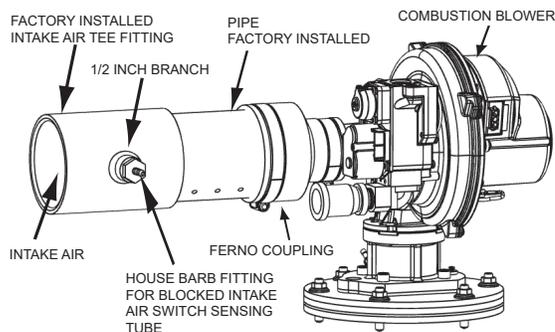

Figure 22. Intake Air Connection
- If installing a 2 or 4 inch diameter intake air pipe, transition to three-inch pipe at the intake air connection on the water heater as shown in **Figure 22**. The field installed three-inch pipe between the intake air connection and the reducer coupling should be 18 inches (45 cm) or less in length.